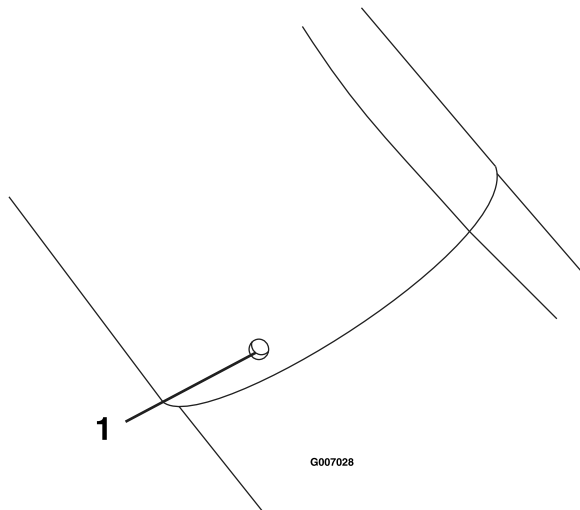

Figure 17
26. If the lower tube is replaced, drill three 7/32 inch holes in the lower tube using the upper tube holes as reference. See Figure 17.